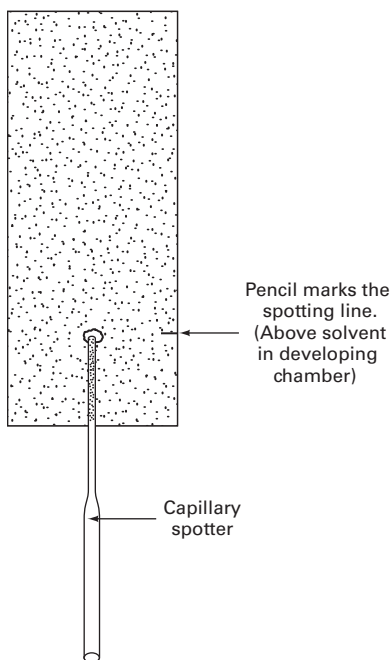

FIGURE 27.2 Putting a spot of compound on a TLC plate.
1. You might want to lightly mark the place where you're going to spot a plate with a pencil (never ink! *Never!*), especially if your sample is dilute and you have to spot more than once in the sample place (Fig. 27.2).